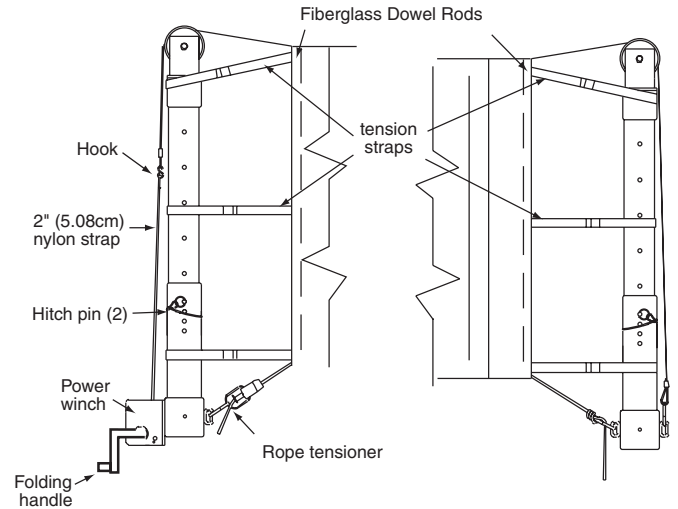

Figure 3
- ⑥ Install standards in floor sleeves.
- ⑦ Set top post at net height by removing hitch pin and resetting hitch pin at required height. NOTE: Proper height is stamped on side of post.
- ⑧ Measure distance from finished floor to top of sheave. This dimension should be 3/4" (2 cm) higher than required net height. If necessary, remove standard from sleeve and adjust rubber bumper until desired height is reached.
- ⑨ Unroll net on floor between standards.
- ⑩ Install 1/2" fiberglass rods in ends of net (see Fig. 3).
- ⑪ Unspool the 2" nylon strap from winch. Hook one end of the top net cable in hook on belt. Hook opposite end of top net cable to cable anchor collar on the other standard (see Fig. 3).
- ⑫ Tighten net by turning winch handle clockwise. Measure distance from top of net to finished floor at the center of the net.
- ⑬ Wrap net straps once around standards and tighten using buckles (see Fig. 3).
- ⑭ Install tensioner to winch end of net rope by inserting rope through beveled end of tensioner. Tie a loop in other end of rope. Attach rope tensioner to winch and rope loop to cable anchor collar (see Fig. 3). Tighten by pulling on rope while holding tensioner.